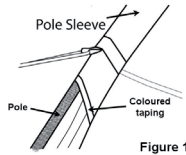

Figure 1
3. Taking the assembled poles in turn, gently PUSH them through the pole sleeves in the flysheet with the same colour taping as the mid section of the pole (see Figure 1). The storm cap that is attached to the main diagonal pole sleeves on the flysheet may need to be unfastened so that the poles may be readily installed. Remember to re-clip the storm cap before proceeding. Where possible avoid standing on the flysheet, as this will damage it. Do not continue until all the poles have been pushed through the sleeves in the flysheet.